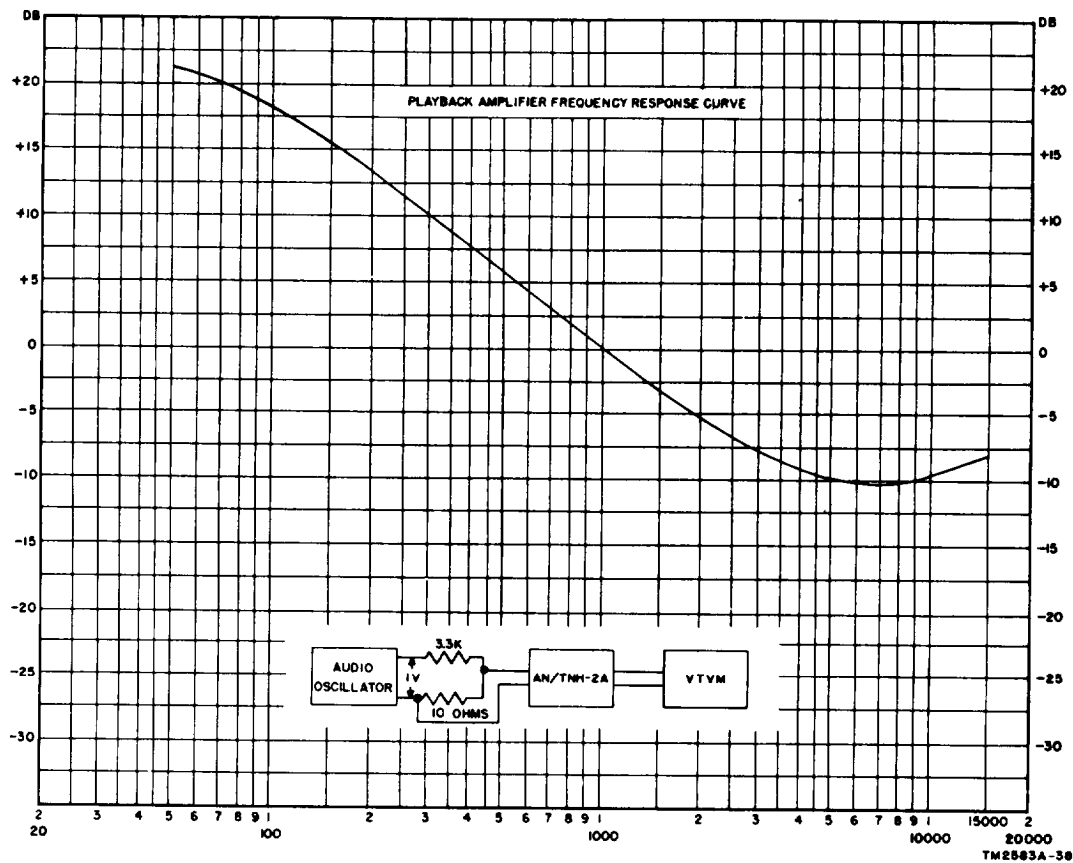

Figure 44. Playback amplifier frequency response curve.
(fig. 44)
- h. Adjust variable resistor R140 (fig. 27) to obtain the frequency response curve indicated in figure 44. Readings may vary  $\pm 2$  db. Use the chart below.
- d. Connect an audio oscillator to the voltage divider (fig. 44). Adjust the audio oscillator for a 1-volt output at 1 kc.